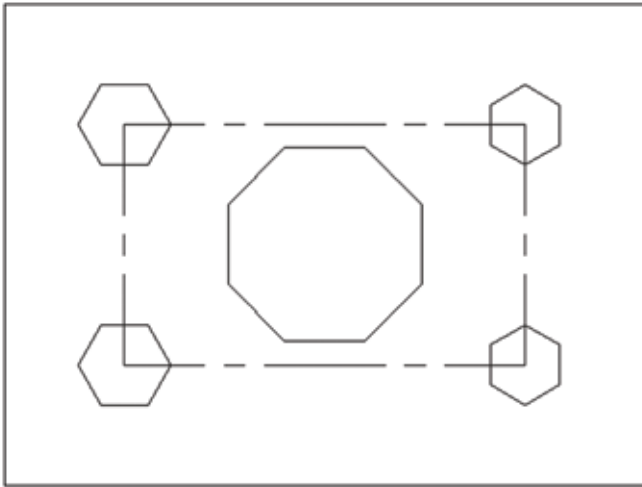

Figure 10.5
- Your drawing should now look like Figure 10.5.